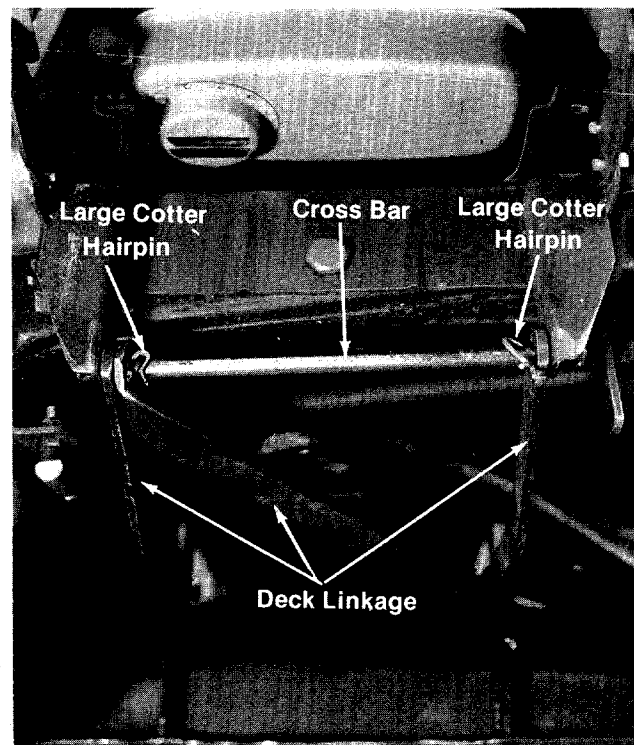

FIGURE 7
- Assemble the front cross bar as shown in figure 7 using two large cotter hairpins to attach the deck linkage to the tractor frame.